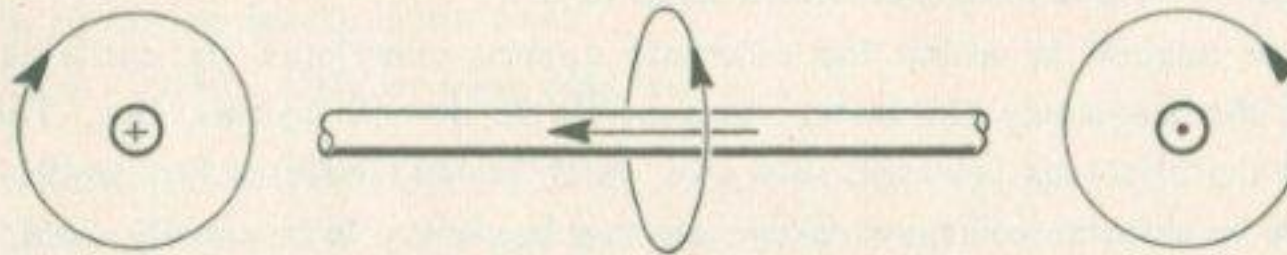

Fig. 1
- 2) **MAGNETIC effect** : when a current runs through a conductor, fig. 1, it generates a magnetic field round it. By joining a certain number of conductors (i.e. by making a bobbin) fig. 2, the magnetic field so generated is intensified.